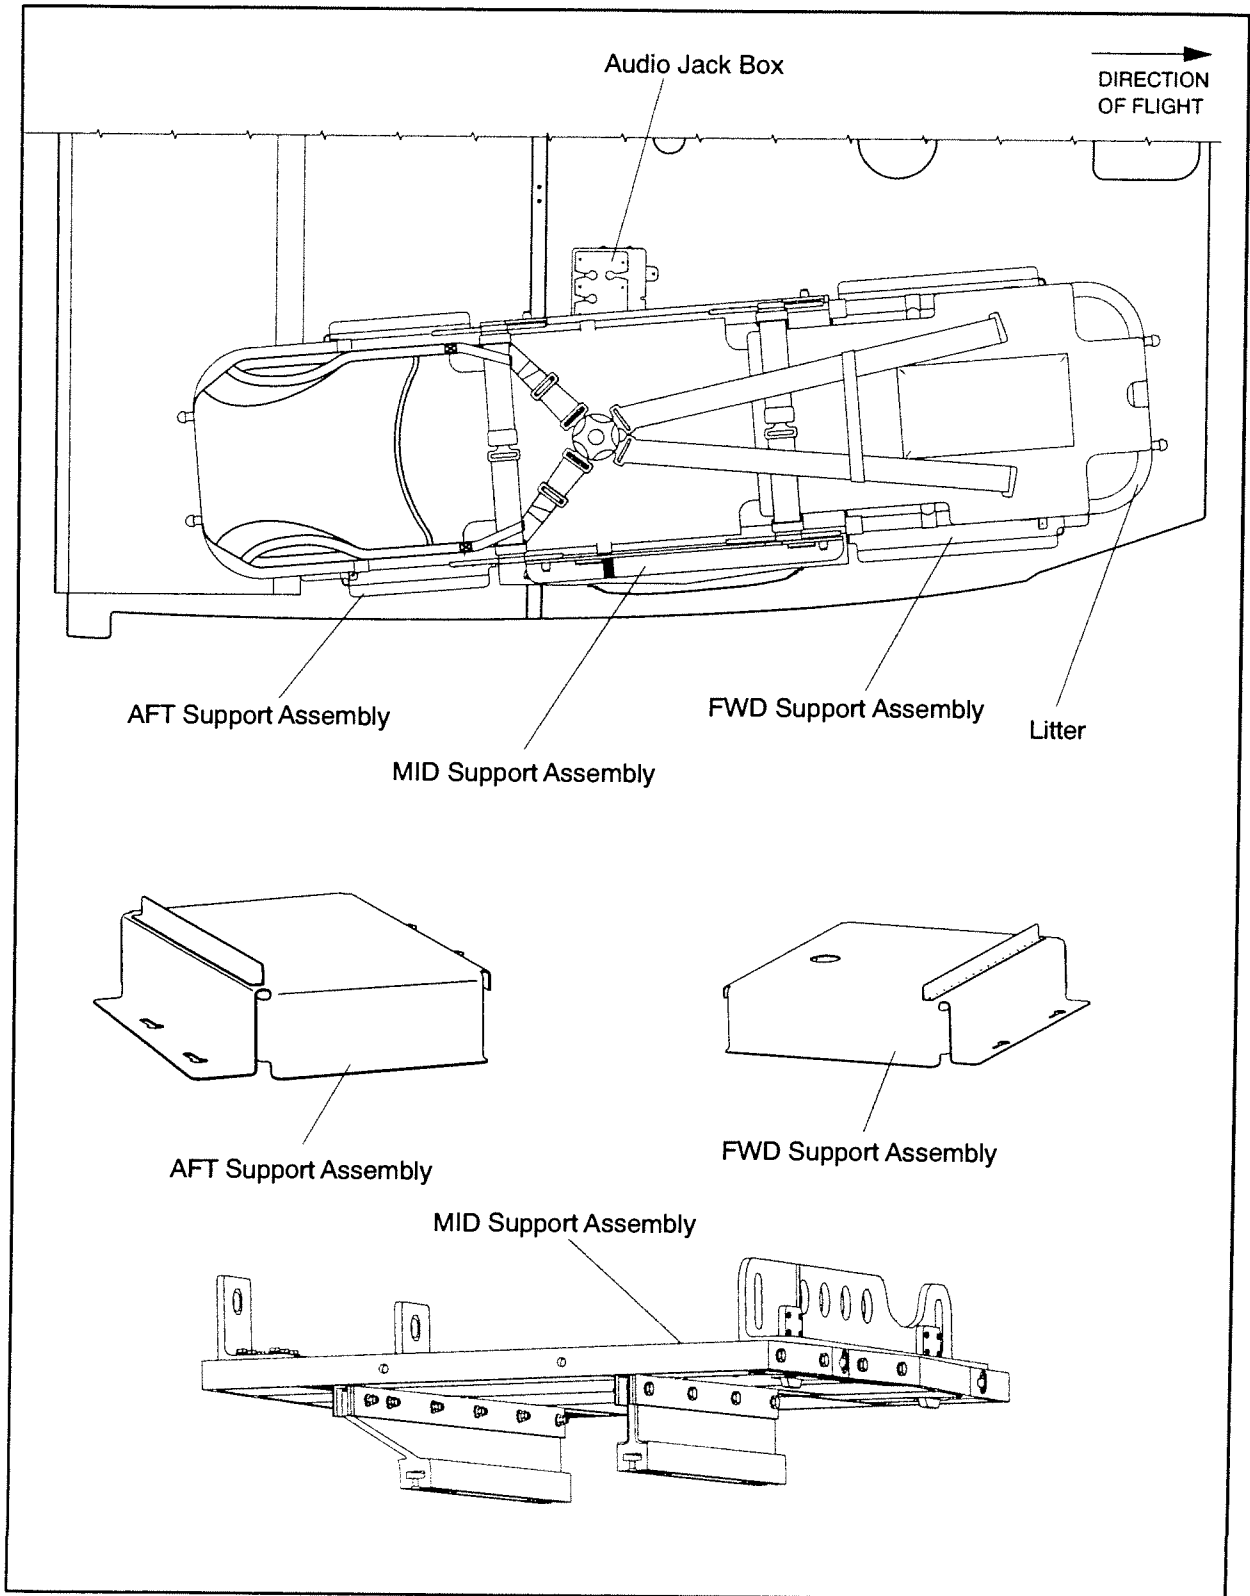

Figure 12 Interior Supports (FWD, MID, AFT), 7 Place Interior
- 5) Position the RH support beam (2) in the slot of the RH rail.
- 6) Install the bolts (8) and washers (11) (2 places), and the bolts (9) through the RH rail and the RH support beam (Figure 12, Section N/N).
- 7) Install the washers (11) and nuts (12) (4 places).